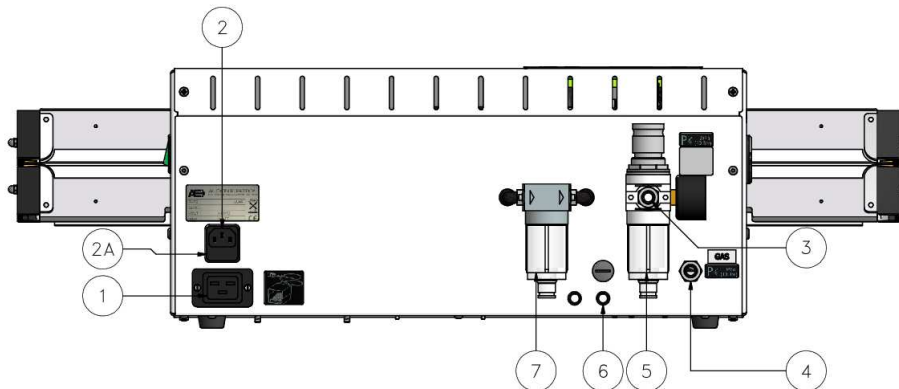

fig. 3
Insert the plug into the connection (1) at the rear of the machine. (see fig. 3).
Insert the female plug of the mains cable into the mains socket (2) at the rear of the sealer. (see fig. 3).
Connect an air hose to the connecting nipple (3). (see fig. 3).
Connect the gas hose to the gas connection (4) at the rear of the machine (see fig. 3).